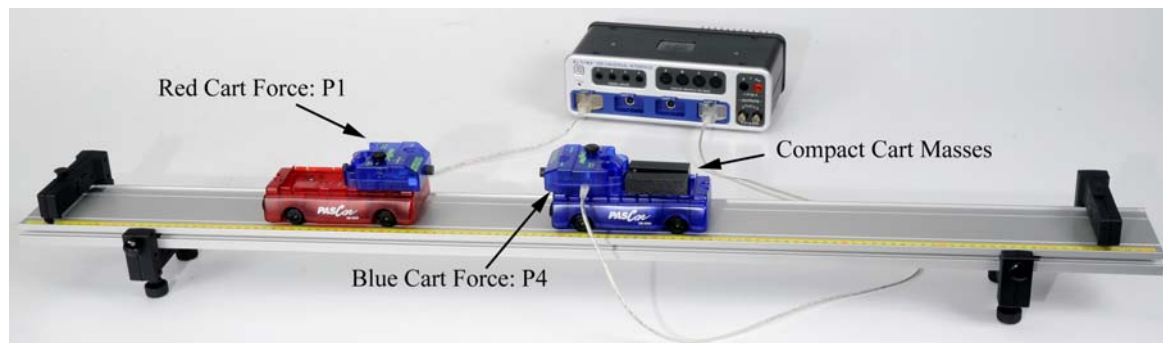

Figure 2: Carts Setup
1. Set up the track as shown in Figure 2. Place the carts on the track and level the track enough so that the carts don't begin to roll. Exact level is not necessary.